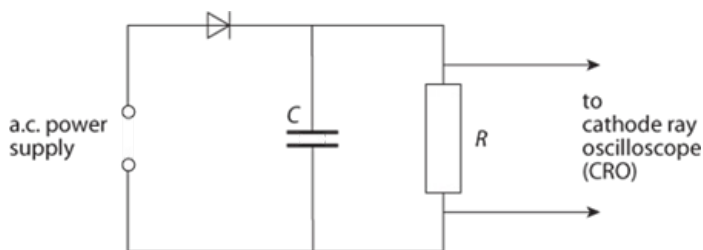

Figure 15.5: Circuit diagram.
- 1 Set up the circuit shown in Figure 15.5.